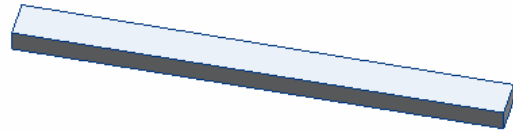

Figure 2. Finished Back Cross Piece
4. The resulting solid object should look like figure 2. Save the design and name it Back Cross Piece